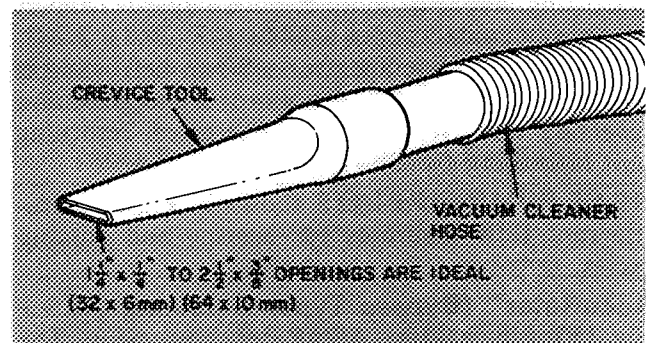

Fig. 21 — Crevice Cleaning Tool
3. Clean coil using vacuum cleaner and its crevice tool (see Fig. 21). Work crevice tool *vertically* making sure tool only touches dirt on fins. To prevent fin removal, do not "scrub" fins with tool or move tool horizontally.